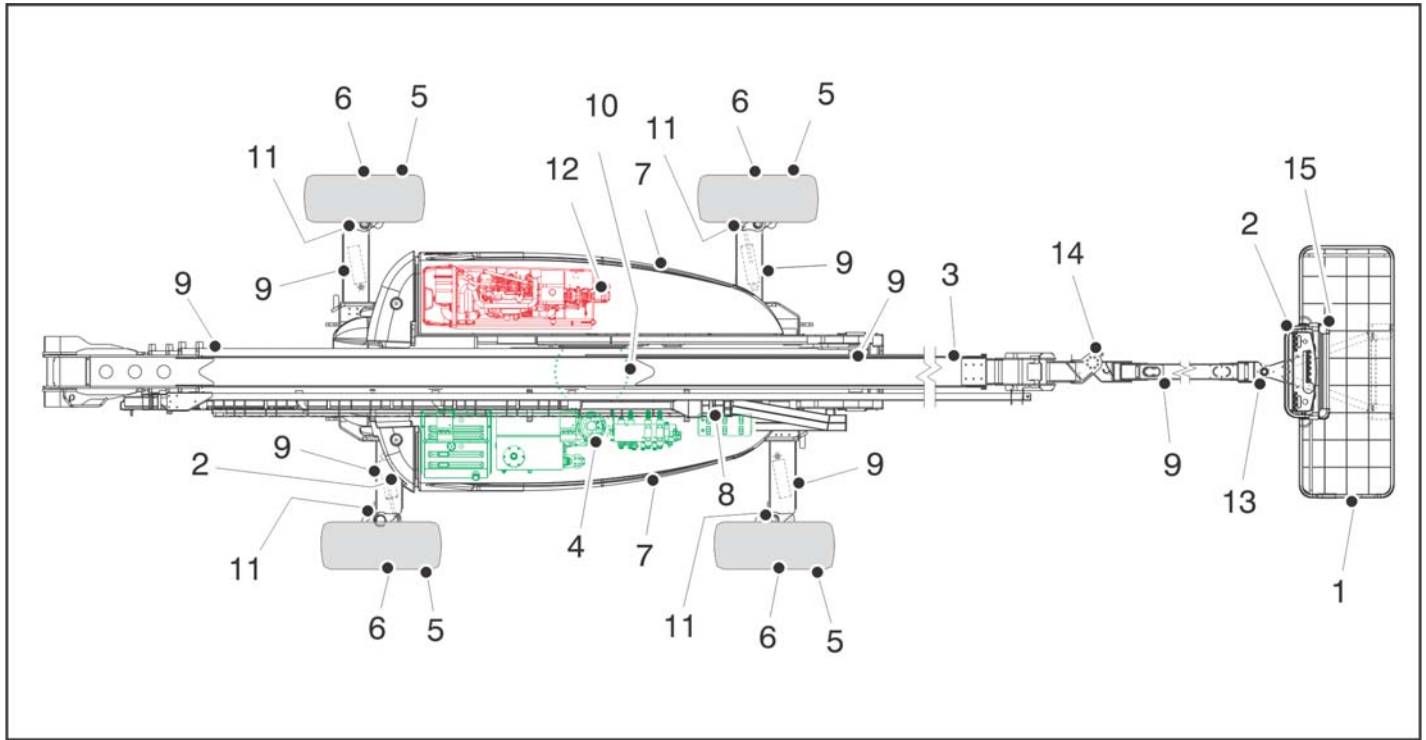

Figure 2-2. Daily Walk-Around Inspection - Sheet 1 of 2
5. **“Walk-Around” Inspection** – Refer to Figure 2-2.